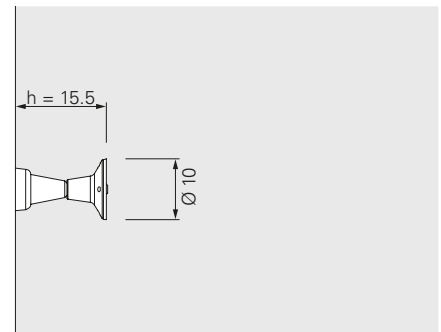

Fig. A5.04a
1. Fully insert Screw-On Cone-2 M24/DW20 (**21**) into Threaded Anchor Plate DW20 (**20**). (Fig. A5.04a)
Anchoring depth $h = 15.5$ cm. (Fig. A5.04a)